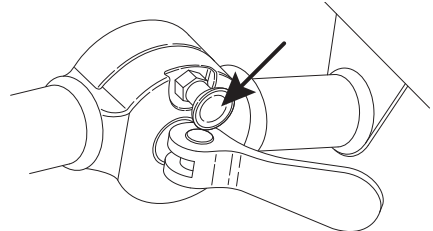

Fig. 7
1. When the buggy is to be used, pull out the pull-bar until the small pin with the red button locks into place in the hinge joint. (Fig. 7)